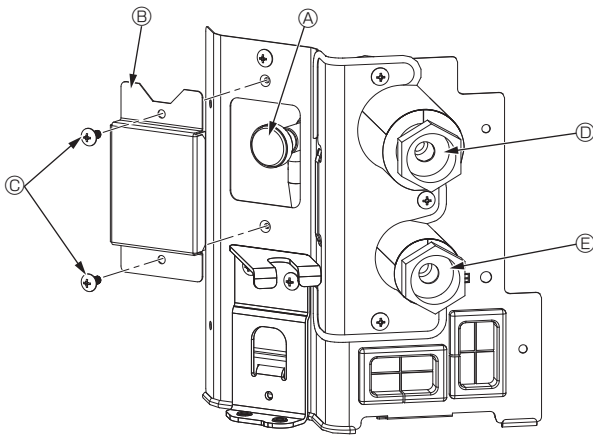

Fig. 7-1
7.2.2. The air vent valve of indoor unit (Fig. 7-1)
- ① Remove the air purge valve cover.
- ② Twist the knob on the air purge valve several times to release the air.
- ④ Air purge valve
- ⑤ Air purge valve cover (Tightening torque: 1.3 ± 0.3 N·m)
- ③ Screw
- ⑥ From HBC unit (Inlet)
- ⑦ To HBC unit (Outlet)